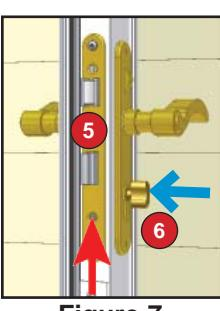

Figure 7
- Insert dead bolt key cylinder into lock case and fasten with one #10 x 1 1/2" screw. (Figure 7)